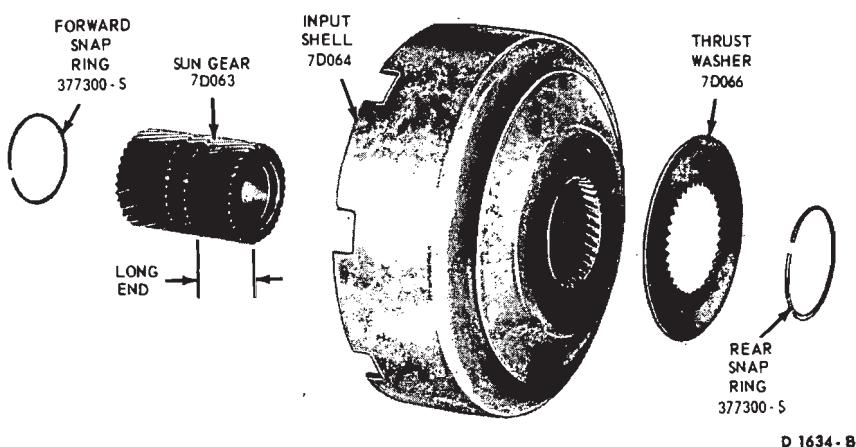

FIG. 57—Input Shell and Sun Gear Disassembled
2. Remove the thrust washer from the input shell and sun gear (Fig. 57).
1. Install the forward snap ring on the forward end (short end) of the sun gear (Fig. 57). Working from inside the input shell, slide the sun gear and snap ring into place making sure that the longer end is at the rear (Fig. 57).